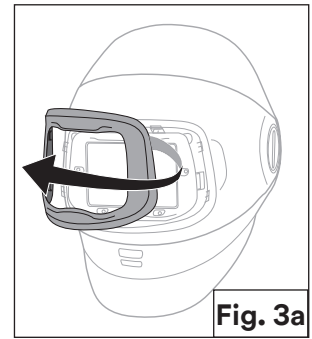

Fig. 3a
- a. While looking at the front of the welding helmet, grasp the silver frame on your right side and pull away from the welding helmet. The frame will pop off (Fig. 3a).